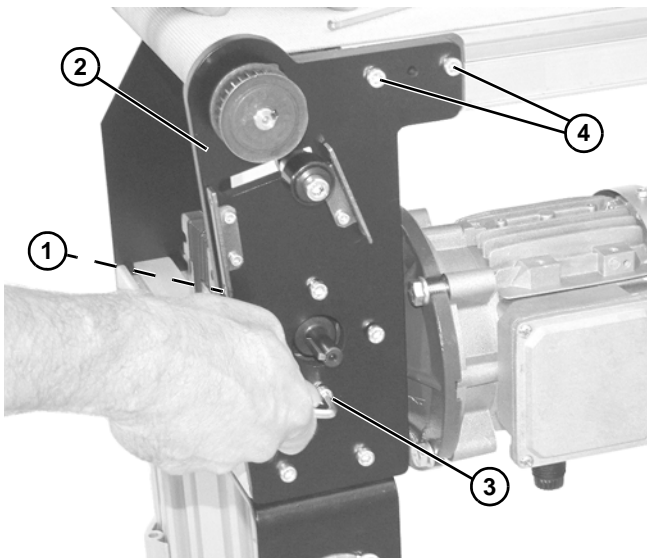

Figure 13
6. Install spacer (Figure 13, item 1) and gearhead/conveyor support plate (Figure 13, item 2) with screws (Figure 13, item 3).
7. Install support plate (Figure 13, item 2) with screws (Figure 13, item 4). Tighten screws (Figure 13, item 3) and (Figure 13, item 4) to 80 in-lb (9 Nm).